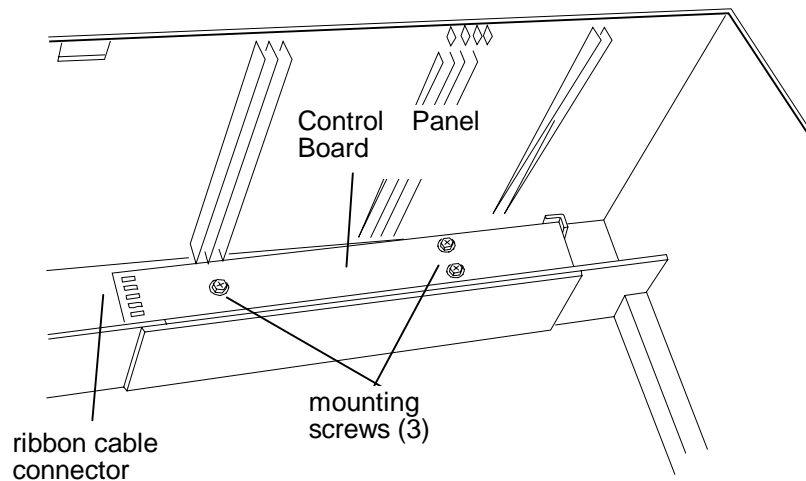

Figure 1.
4. Remove the mounting screws (3) from the Control Panel Assembly; remove the board (Figure 1).